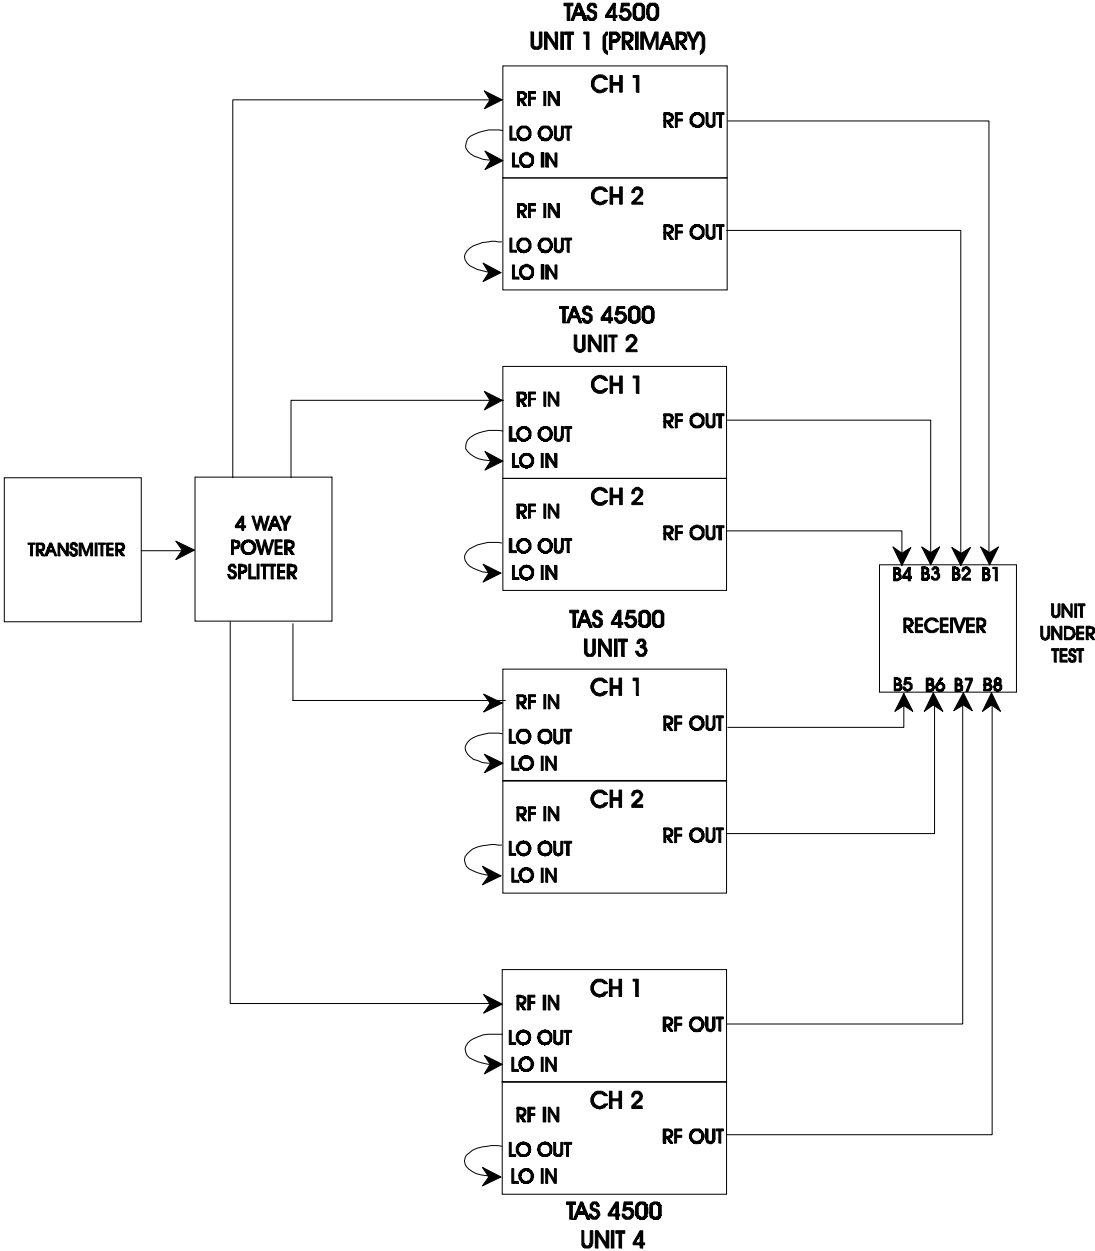

Figure 1-10. 8-channel RF Signal Distribution
1. For each 4500, install a short cable from the N type connector labeled "CHANNEL 1 LO OUT" to the "CHANNEL 1 LO IN" connector on the front panel of the TAS 4500 shown in Figure 1-10.